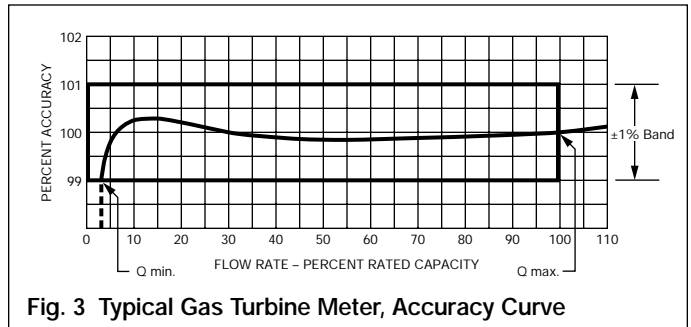

Fig. 3 Typical Gas Turbine Meter, Accuracy Curve
The graph of Fig. 3 shows a typical accuracy curve for the GTS meter. As shown, rated rangeability over the  $\pm 1\%$  band is the ratio of maximum flow rate ( $Q_{max}$ ) to minimum flow rate ( $Q_{min}$ ). Rangeability of GTS meters becomes greater with increasing line pressures.
**Minimum Flow Rates** are based on the minimum rotor speed that produces a measurement accuracy within an error band of  $\pm 1\%$ , as shown in Fig. 3.